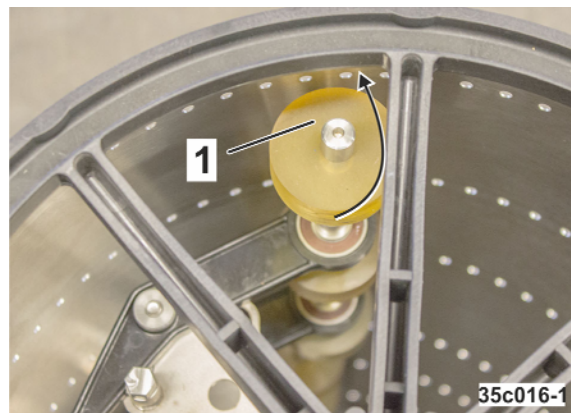

Fig. 332
1. Place the hole-covering rollers (Fig. 332/1) on the singling drum.